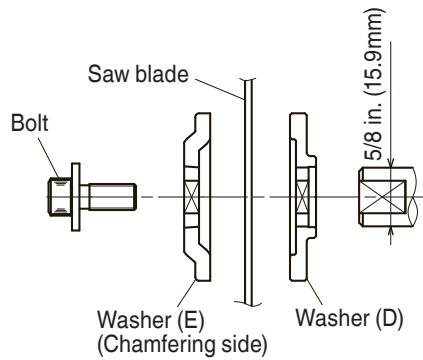

Fig. 28-c
- (6) Press in the spindle lock and tighten the bolt by turning it to the left by standard accessories wrench (5mm Hex. bar wrench) as indicated in Fig. 28-b.